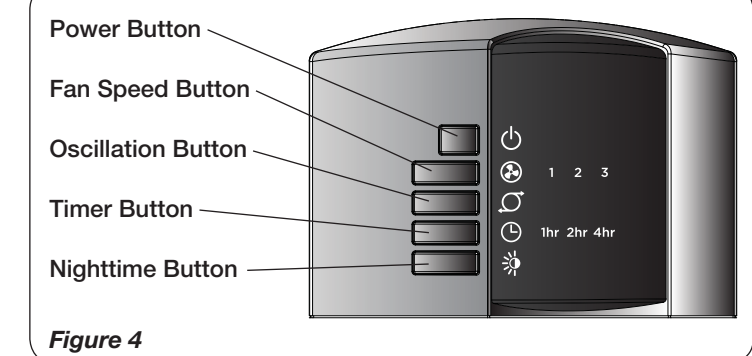
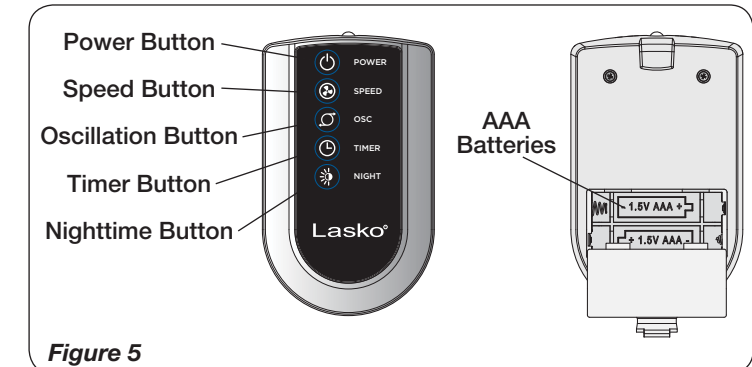

Figure 4
Figure 5
This Fan may be operated by the Manual Controls located on front of the unit (Figure 4) or by the Remote Control (Figure 5).
1. Install two "AAA" batteries (not included) as shown in Figure 5.